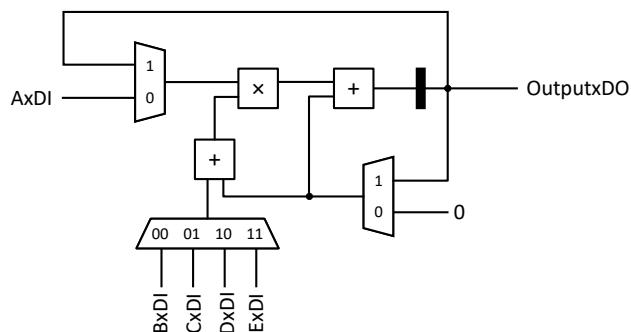

Figure 3: Diagram of Task 6.1.
We consider a datapath shown in Figure 3. The area and delay specifications of the operations (and the registers) are provided in Table 1. Assume that the inputs are stable at $t_{\Delta} = 0$. Remember that the time-per-data-item is defined in both clock cycles and time (nanoseconds). The time-per-data-item in clock cycles is the number of computation cycles between releasing two subsequent data items, that is, producing two results.
Consider the schematic of the iteratively decomposed datapath in Figure 3. This circuit processes 5 numbers over multiple cycles. We distinguish the following four path groups with the corresponding minimum and maximum delays:
1. Which of the four path groups is not meaningful (has no path) in Figure 3? For the meaningful path groups, please estimate the min and max of these, i.e., t_{xx}^{min} and t_{xx}^{max} .